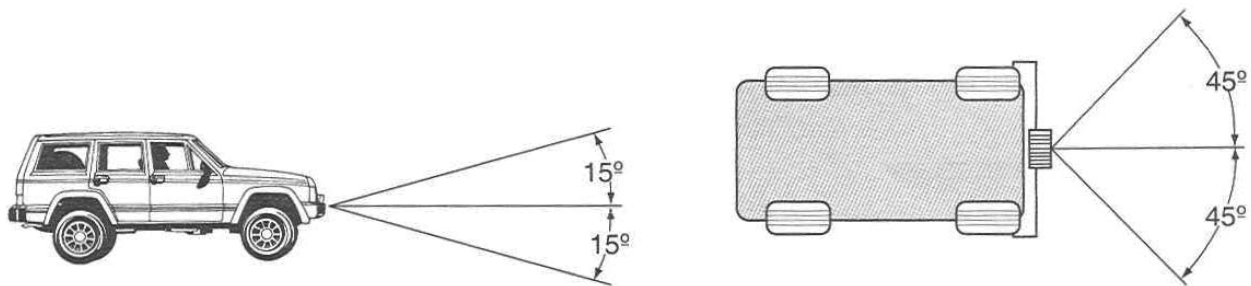

Figure 7
2. 45° angle left or right from straight ahead (See Figure 7 Below). Caution: Exceeding the maximum line pull rating may overload winch, winch mount, and/or front mounted receiver.